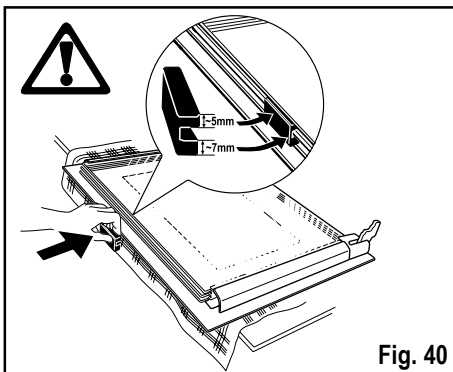

Fig. 40
10. As soon as the inner glasses are inserted in the oven door, fix the rubber distance holder (see Fig. 40).